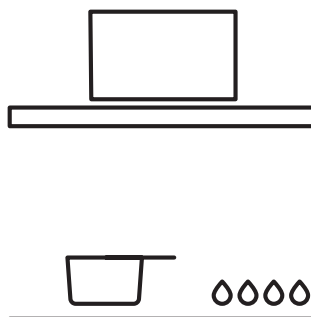

Figure 2
- Do not leave lit gas burners exposed due to the risk of fire. (Figure 2)